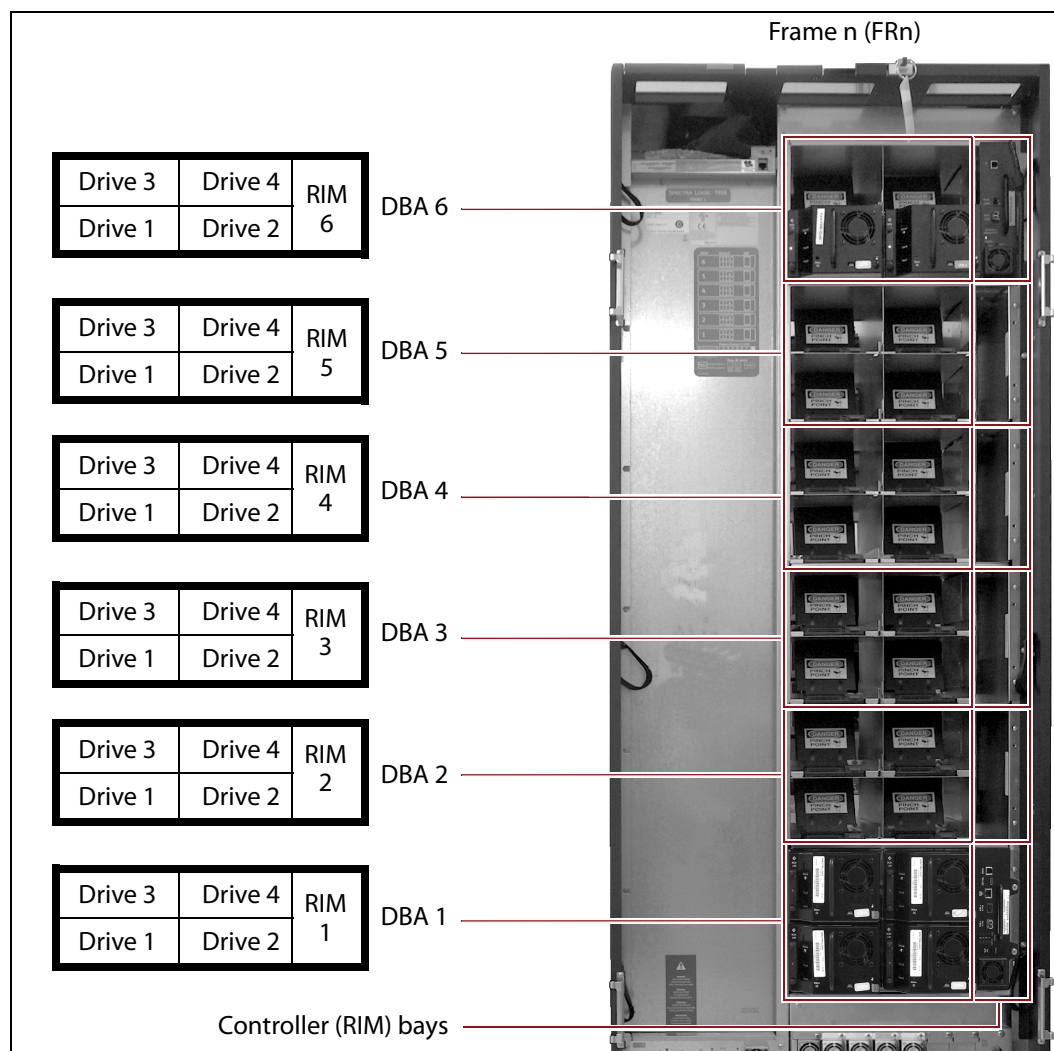

Figure 17 The relationship between the DBA, the component locations, and the identifiers in the BlueScale and XML interfaces (main frame with RIMs shown).
Figure 17 shows the relationship between the DBAs and the locations of the drives and controllers in the main frame.
- **DBAx** is the number of the DBA where the RIM2 is installed (see Figure 17 on page 56). The main frame and each drive expansion frame accommodates up to six DBAs.
The component identifier for each drive is based on its location relative to the frame and the DBA where it is installed, as viewed from the back of the library (see Figure 17 on page 56). The component identifier for a drive is shown as **FRx/DBAx/xTYPE-DRVx**, where: